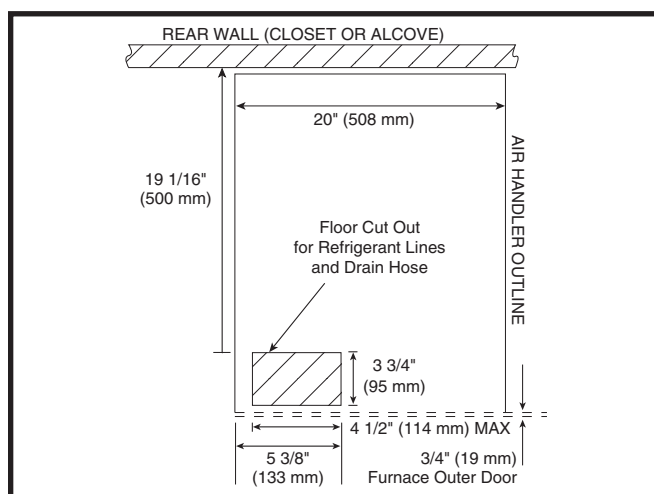

Figure 1. Location of Floor Cut-Out for Refrigerant Lines & Drain Hoses
3. If needed, make a plate to adapt the coil to the air discharge opening. See Figure 1 for coil dimensions.
8. Cut the floor opening for the refrigerant lines and drain line. See Figure 1 on page 3.
2. Remove the knockout in the left bottom corner of the furnace and cut an appropriately sized hole in the floor. See Figure 1. **NOTE:** For the optional cabinet, refer to its installation instructions for assembly details.